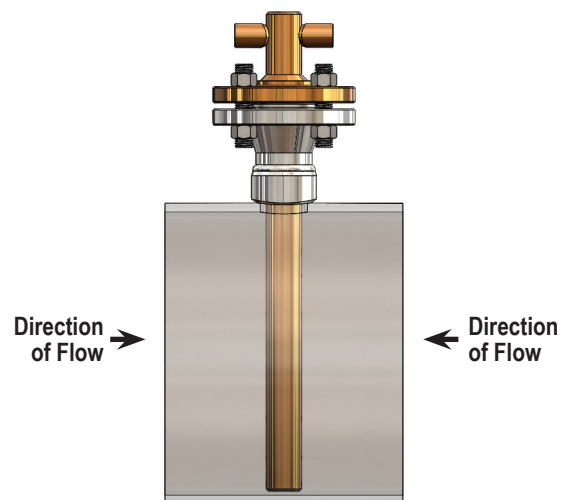

Figure 5. Orientation of Flow Arrow
- Install the sensor with the gasket between the flanges such that the flow arrow on the head of the sensor is in the direction of the flow (Figure 5). The nuts should be tightened until the gasket is completely crushed (the gasket thickness should be approximately 1/8" [3mm]).